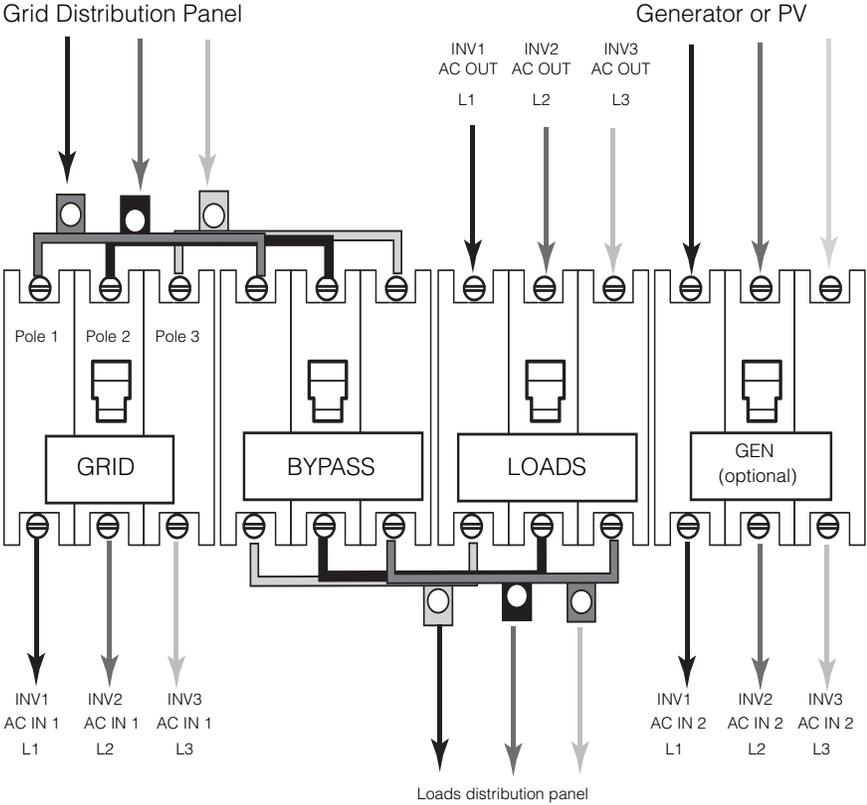

Figure 3-33 PDP Three-Phase AC Wiring
- 4. Connect the AC wiring as shown in Figure 3-33.